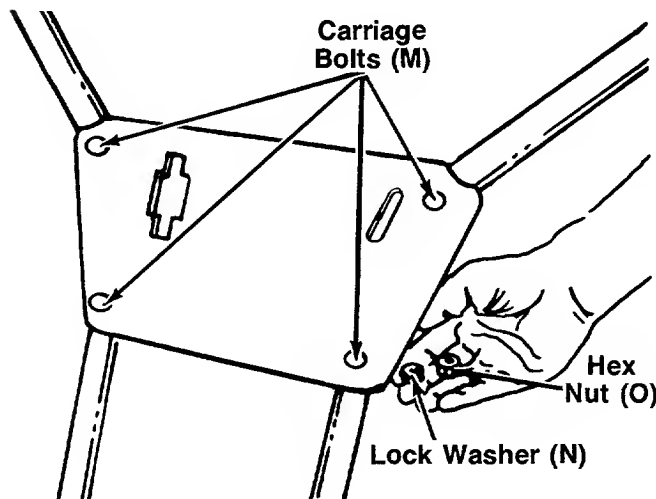

FIGURE 6.
1. Attach the handle panel to the handles using carriage bolts (M), lock washers (N) and hex nuts (O). See figure 6. Do not tighten.